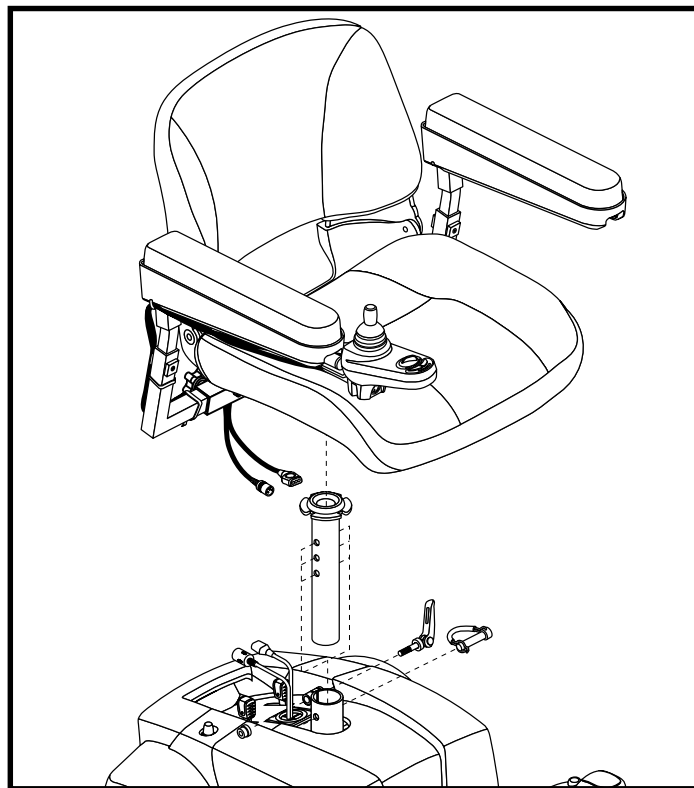

Figure 9. Seat Installation
2. Set the seat onto the seat pedestal. See figure 9.
4. Lift the armrest straight up, then route the controller cable and secure with wire-ties as shown in figure 9.